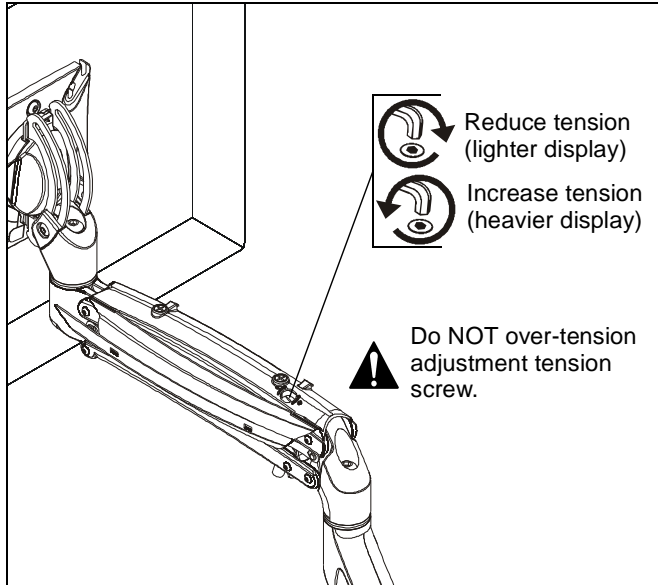

Figure 11
1. Tension may be adjusted with tension adjustment screw inside cable management cover and 1/8" hex key (M). Turn clockwise to reduce tension or counter-clockwise to increase tension. (See Figure 11)